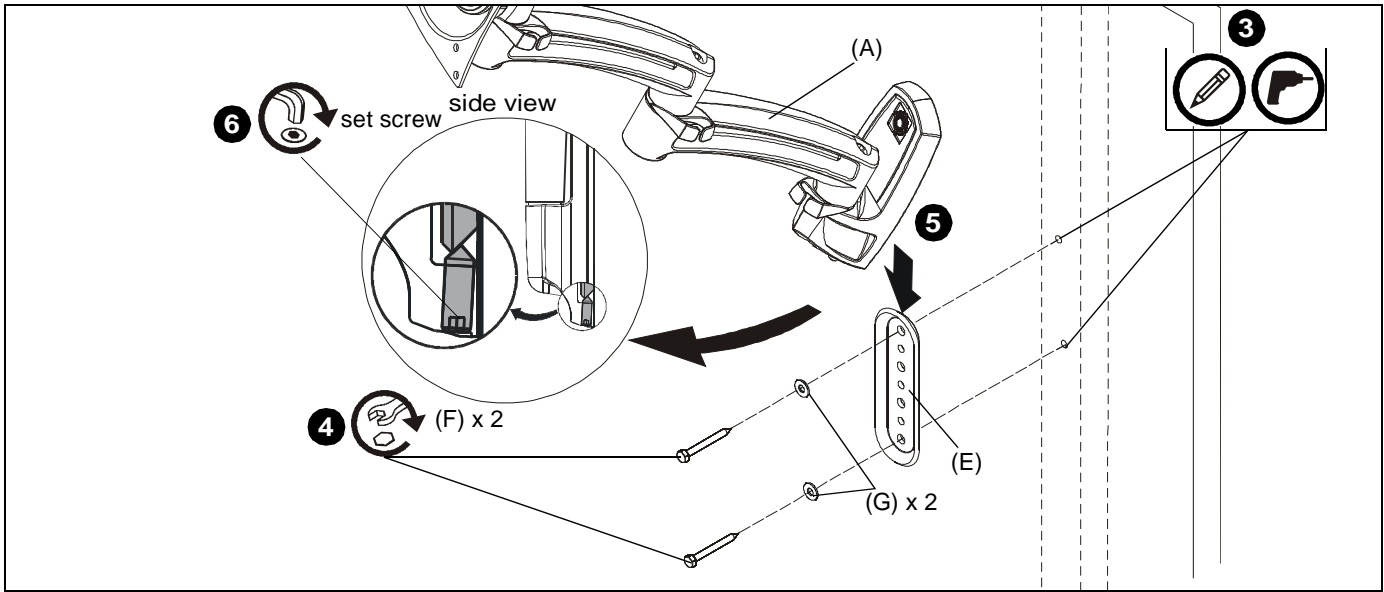

Figure 1
3. Use wall bracket (E) to mark and drill two 1/8" x 2 1/2" holes in wall at desired mounting location. (See Figure 1)
IMPORTANT ! : Only top and bottom holes of wall bracket (E) must be used to attach bracket to wall as shown in Figure 1. Do NOT use any other holes to secure bracket to wall!
4. Use two 1/4-2 1/2" hex head lag screws (F) and two 1/4" washers (G) to install wall bracket (E) onto wall. (See Figure 1)
5. Hang monitor arm (A) over wall bracket. (See Figure 1)
6. Secure monitor arm to wall bracket by tightening set screw. Ensure set screw engages back side of wall bracket (E) to properly secure mount. (See Figure 1)